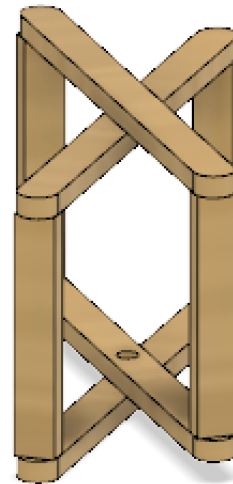

Figure 5: Finished APBM wooden base. with the additional cross placed on top.
4. Create another tongue depressor cross just like in step one and glue the four corners of the cross to the upright rectangular pieces. Your final product should look like Figure 5 in Appendix C.